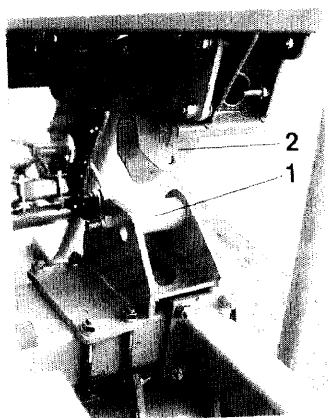
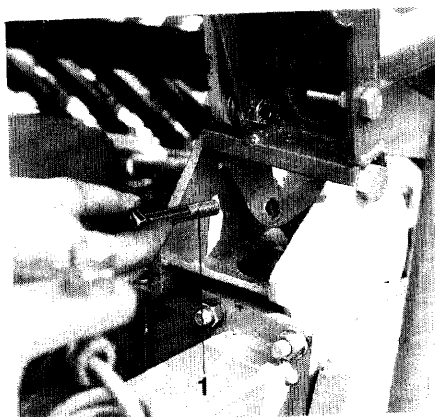

Fig. 13
Fig. 14
- Bring hinging shafts (Fig. 13/1) and catching pockets (Fig. 13/2) together, insert two pins (Fig. 14/1) and secure with spring pins.